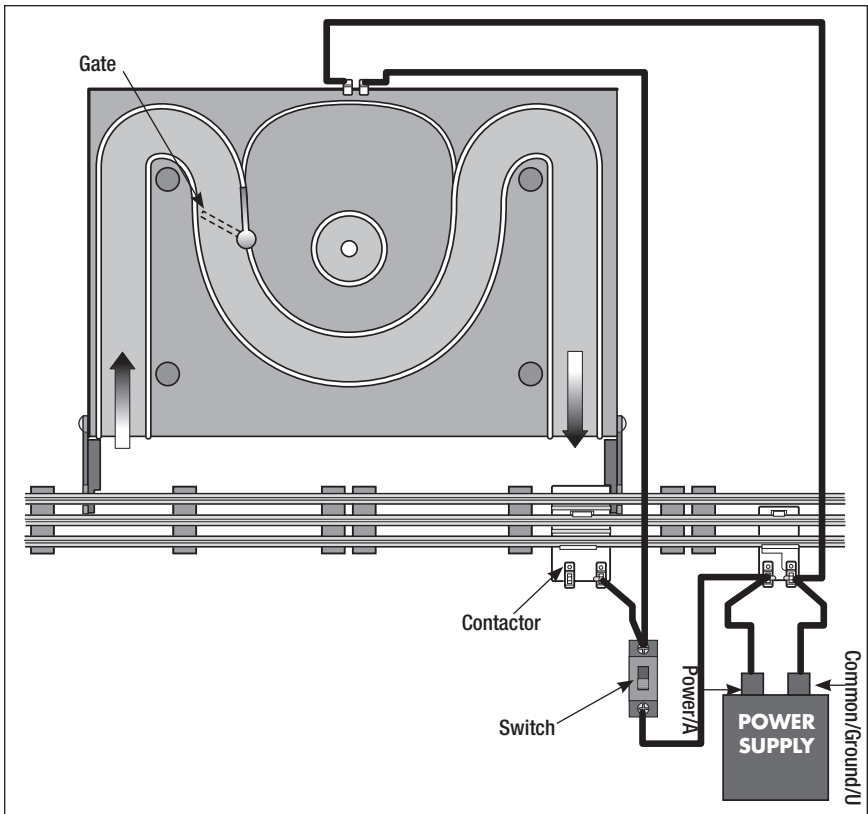

Figure 5. Power connections for O-27 and O gauge track
Your Horse Car and Corral will operate best at 11-14 volts (AC). You will need to adjust the voltage to obtain the optimum operation. Connect the corral and contactor to the transformer terminals that supply power to the track. Refer to Figure 5 as you make these connections.
2. Line up the horse figures in the corral passage so that they are facing in the direction of the arrows. The gate heading to the drinking corral in the center of the corral should be closed. See Figure 5 on page 7.